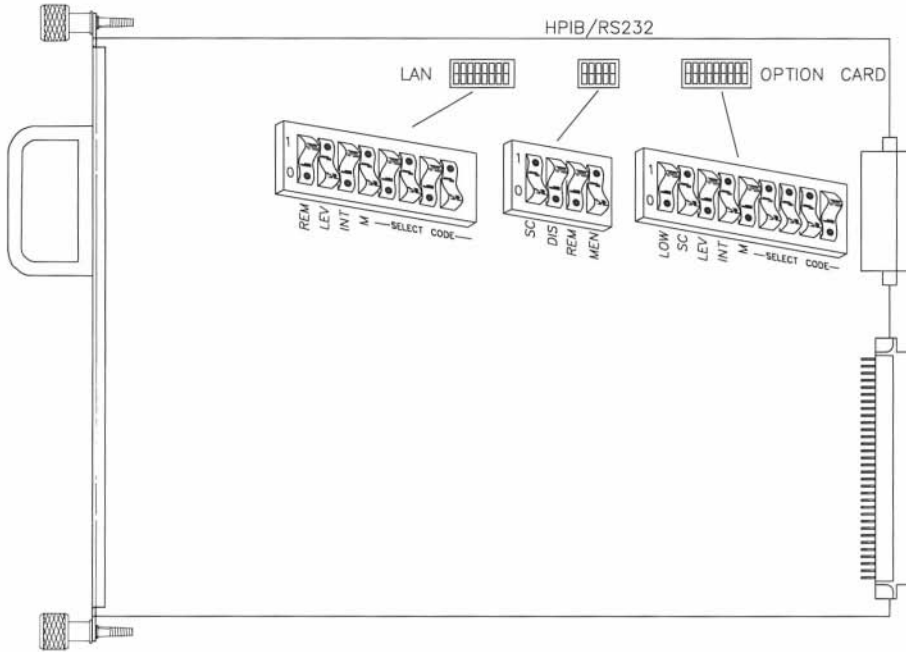

Figure 5-19. Human (System) Interface board switches
- a. Find the group of four switches labeled **HPIB/RS232**. The switch labeled **SC** in this group is the System Controller switch (see figure 5-19).
- b. If connecting two computers together via HP-IB, only one of them may be set to system controller. To change this interface to non-system controller, move the System Controller switch to the **0** position (the opposite of that shown in figure 5-19).
- a. Find the group of four switches labeled **HPIB/RS232**. The switch labeled **DIS** in this group is the RS-232C Disable switch (see figure 5-19).
- b. To disable the RS-232C Serial interface, move the **DIS** switch to the **1** position (the opposite of that shown in Figure 5-19).
If you later want to enable the RS-232C Serial interface, move the switch back to the **0** position as shown in figure 5-19.
- a. Find the group of four switches labeled **HPIB/RS232**. The switch labeled **REM** in this group is the Remote Terminal Enable switch (see figure 5-19).
- If you are connecting a terminal to this interface and want this terminal to be the system console, set this switch to **1**, which is the *opposite* of that shown in Figure 5-19.
- If you are connecting a terminal to this interface but **do not** want this terminal to be the system console, or if you are connecting any other device, set this switch to **0** as shown in Figure 5-19.
- a. Find the group of four switches labeled **HPIB/RS232**. The switch labeled **MEN** in this group is the Modem Lines Enable switch (see figure 5-19).
- If you intend to connect an HP 2601A printer, an HP 2686A *Laserjet* printer, an HP 92205A/C Hayes *Smartmodem*, or a *uucp*, set this switch to **1** as shown in Figure 5-19.
- If you intend to connect a terminal or the HP 39800/01A bar code reader, set this switch to **0**, which is the *opposite* of that shown in Figure 5-19.
- Find the group of eight switches labeled **LAN**. The five switches labeled **M** (for Most-significant bit) and **SELECT CODE** in this group are the LAN Select Code switches (see figure 5-19).
- a. Find the group of eight switches labeled **LAN**. The two switches labeled **INT** and **LEV** in this group are the LAN Interrupt Level switches (see figure 5-19).
- a. Find the group of nine switches labeled **OPTION CARD**. The five switches labeled **M** (for Most-significant bit) and **SELECT CODE** in this group are the Select Code switches (see figure 5-19).
- a. Find the group of nine switches labeled **OPTION CARD**. The switch labeled **SC** in this group is the System Controller switch (see figure 5-19).
- b. If connecting two computers, only one of them may be set to system controller. To change this interface to non-system controller, change the System Controller switch to **0** (the opposite of that shown in figure 5-19).
The Low/High Speed switch is preset to **0**, “high speed,” as shown in Figure 5-19. This setting is appropriate for most applications. If you want to change this setting, continue with step 12; otherwise skip to step 13.
- a. Find the set of nine switches labeled **OPTION CARD**. The switch labeled **LOW** in this group is the Low/High Speed switch (see figure 5-19).
- To set this switch to “low speed,” set the **LOW** switch to **1**, which is opposite of that shown in Figure 5-19.
- To set this switch to “high speed,” set the **LOW** switch to **0** as shown in Figure 5-19.